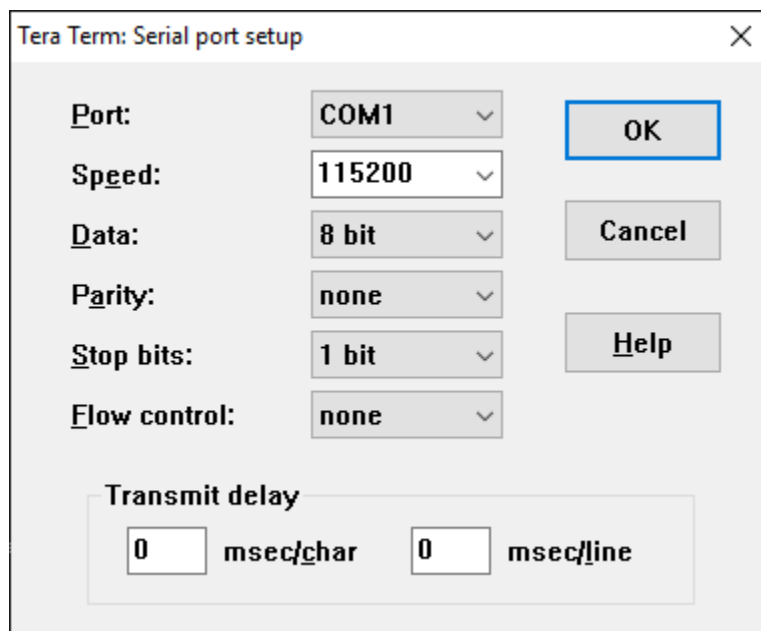

Figure 4: Tera Term Serial Port Settings
5. Verify that the serial port settings are correct (see Figure 4 in the previous section).